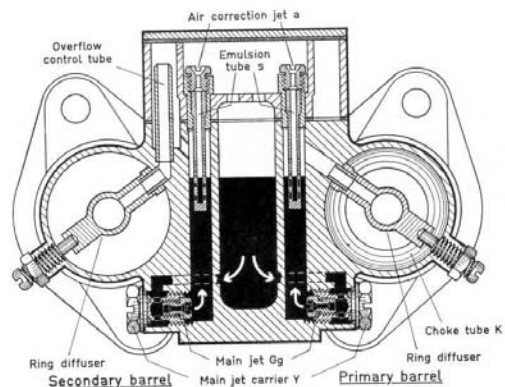

Fig. 27 Jet assembly of the 44 PHH carburetor
**e) New jet Assemblies (figs. 27 and 28)**